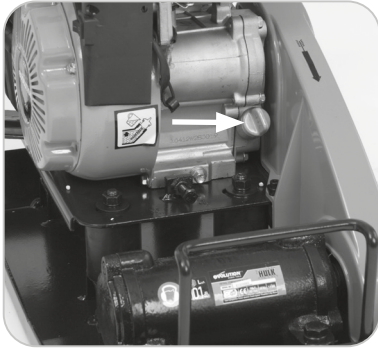

Fig. 13
- Remove the oil filler cap. (**Fig. 13**)